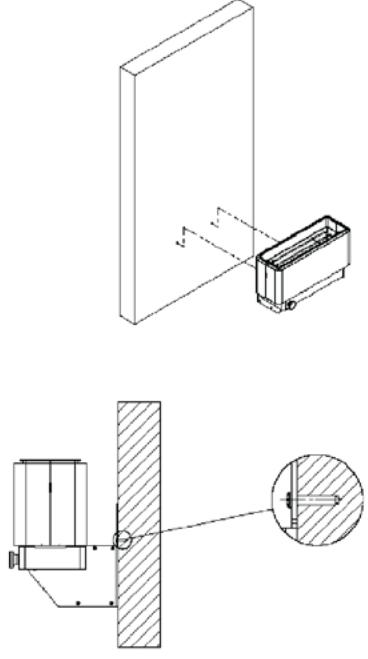

Figure 3.4: Hanging the sauna climate device on the wall
**3.2.3.** Then, lift the device on the wall so that the bolts in the wall slide into the openings on the back of the device (figure 3.4).